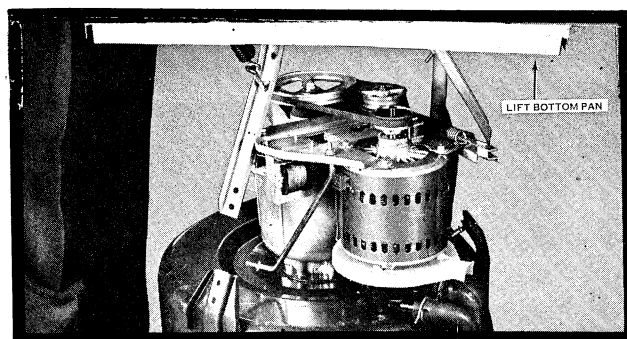

Figure 65
- e. Lift bottom pan, pivot dome and tub unit braces with the springs as a unit up and away, see *Figure 65*.